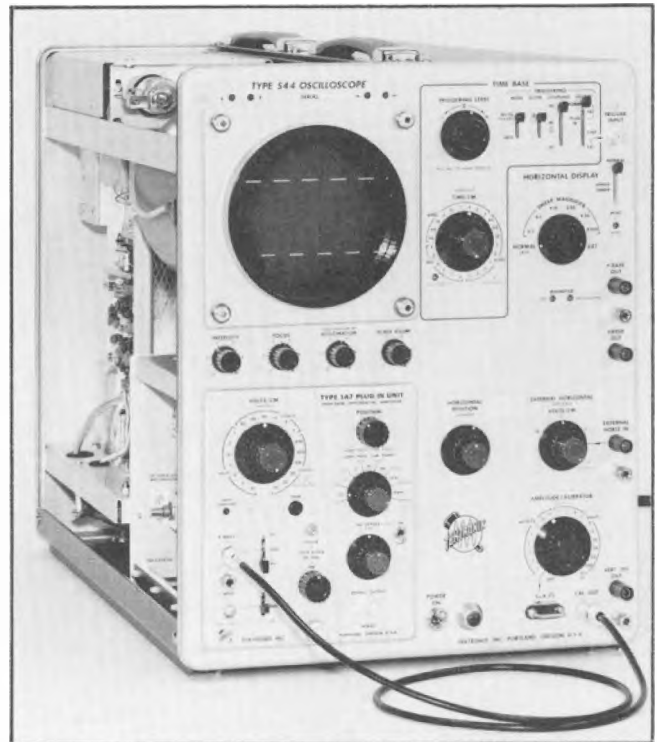

Fig. 6-16. Setup at completion of step 11c.
c. Set the oscilloscope calibrator for a 50-mV output. Disconnect the calibrator signal from the $-$ INPUT connector and apply it to the $+$ INPUT connector. Fig. 6-16 shows the setup.